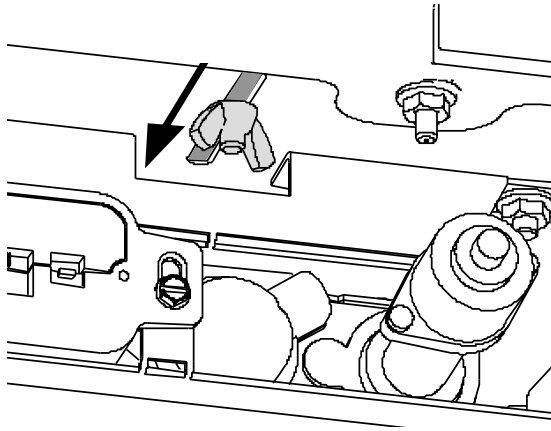

Figure 7.1.
3. Open the Controls Panel under the firebox. Loosen the Air Shutter wing nut located below the firebox floor and push the stem back far as it will travel. See fig. 7.1.